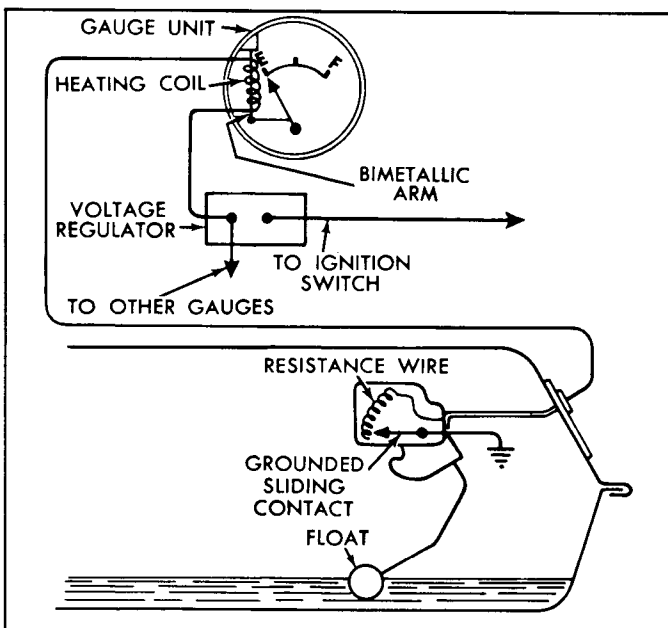

Fig. 10B-14—Fuel Gauge Circuit—(60C-7638)
The fuel gauge system consists of a sending unit, located in the gas tank, and a remote register unit (fuel gauge) mounted in the instrument cluster. The remote register unit pointer is controlled by a bimetallic arm and heating coil. The sending unit is a rheostat that varies its resistance depending on the amount of fuel in the tank. The fuel gauge circuit is shown in figure 10B-14.
1. Remove the instrument cluster bezel, lens, and cluster mask from the instrument cluster housing. See figure 10B-15.